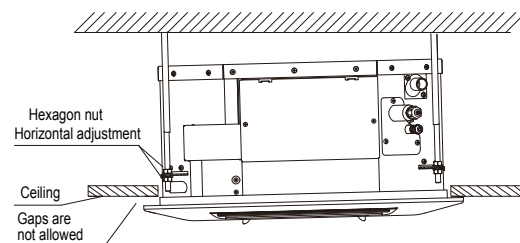

Fig.5-14
- If the gap between the panel and ceiling still exists after fastening the screws, the height of the indoor unit should be adjusted. (Refer to Fig.5-14-left)
- Modify the height of the indoor unit through the openings on the panel's four corners, if lifting the indoor unit and the drainage pipe is not influenced (Refer to Fig.5-14-right).